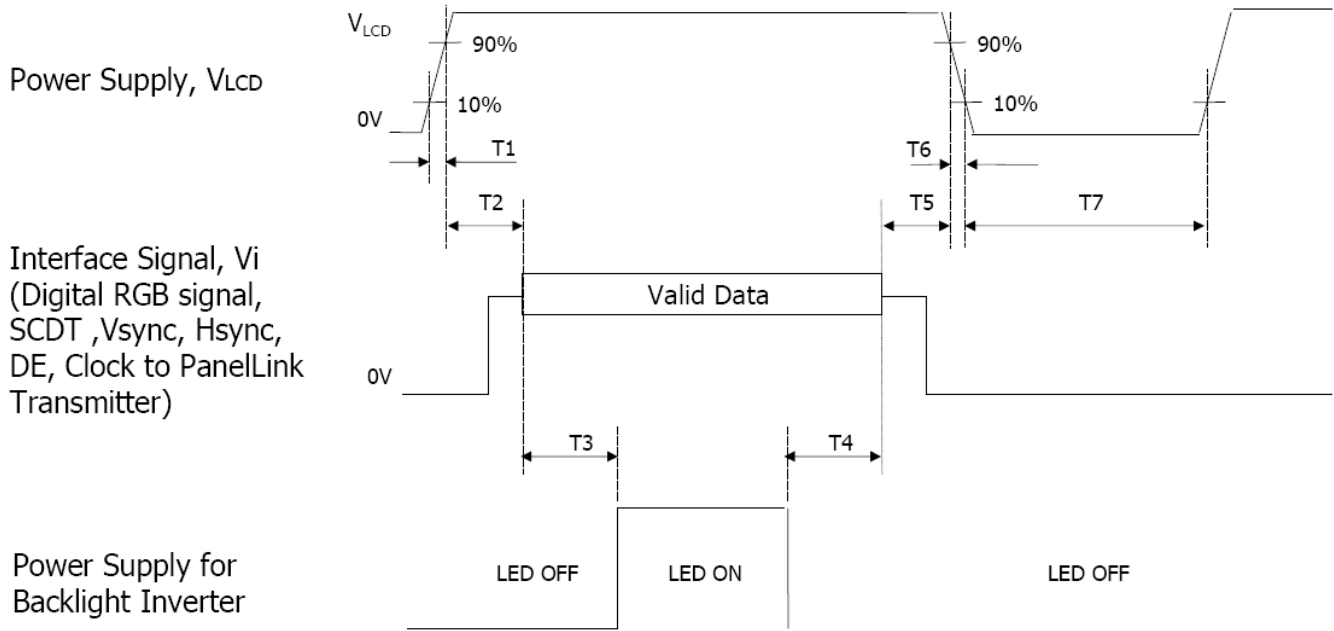

FIG.5 Power sequence
**[ Figure 5 ] Backlight connector View**